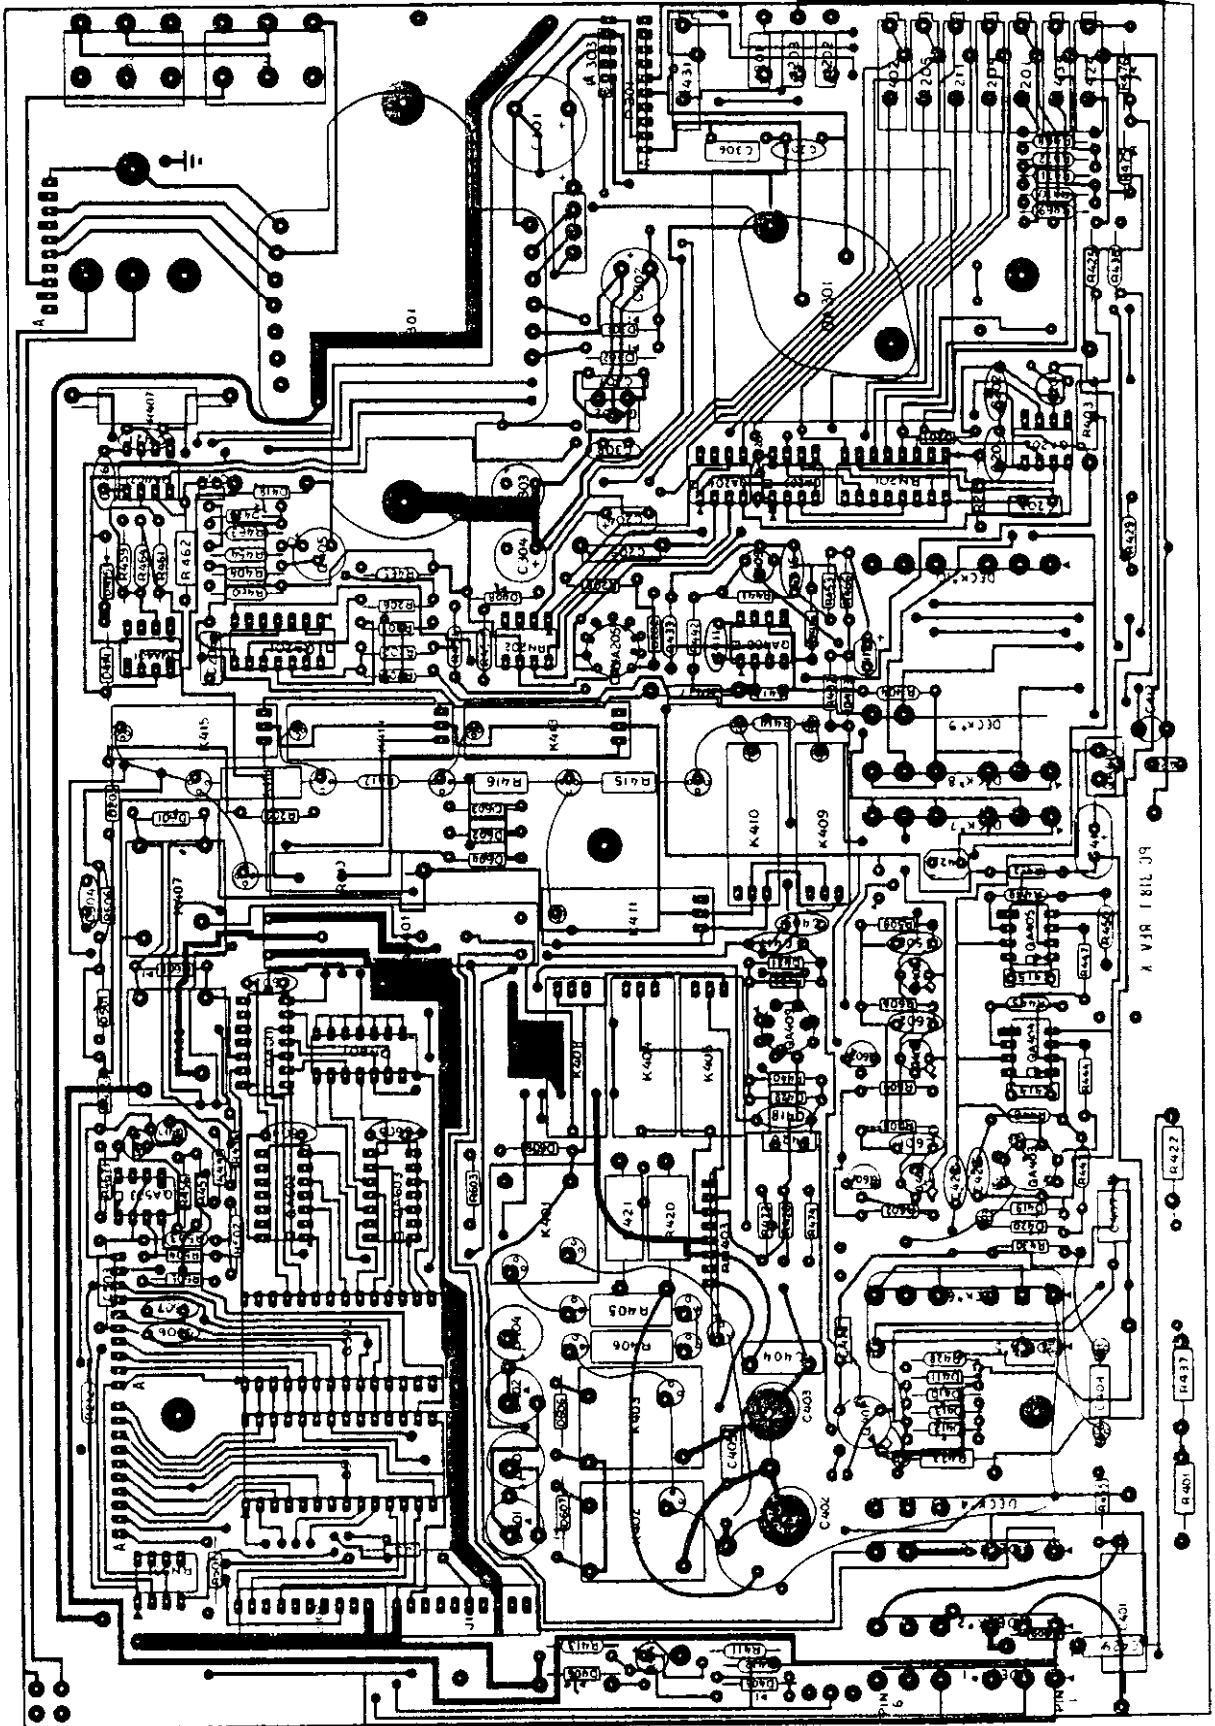

FIGURE 14. Component Layout, Mother Board, PC-318
| (f) High zero offset on 10mV ac and ac amps. | Wires near S401A Deck Nos. 2-5 have moved and/or RN403 is defective. | Position wires per Figure 14. |
| (g) On 10-1000V ac ranges only, 20kHz spec is out of tolerance; 20 Hz spec is OK. | (1) C402, C403 out of adjustment. (2) Wires near S401A Deck Nos. 2-5 have moved and/or RN403 is defective. | (1) Recalibrate per Section 5-4. (2) Position wires per Figure 14. |